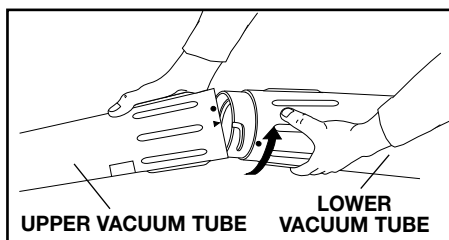

Fig. 9
- Slide the lower vacuum tube into the upper vacuum tube. The arrow on the lower vacuum tube should align with the arrow on the upper vacuum tube (Fig. 9).
- Turn the tube clockwise until the dot on the lower vacuum tube aligns with the dot on the upper vacuum tube (Fig. 9).